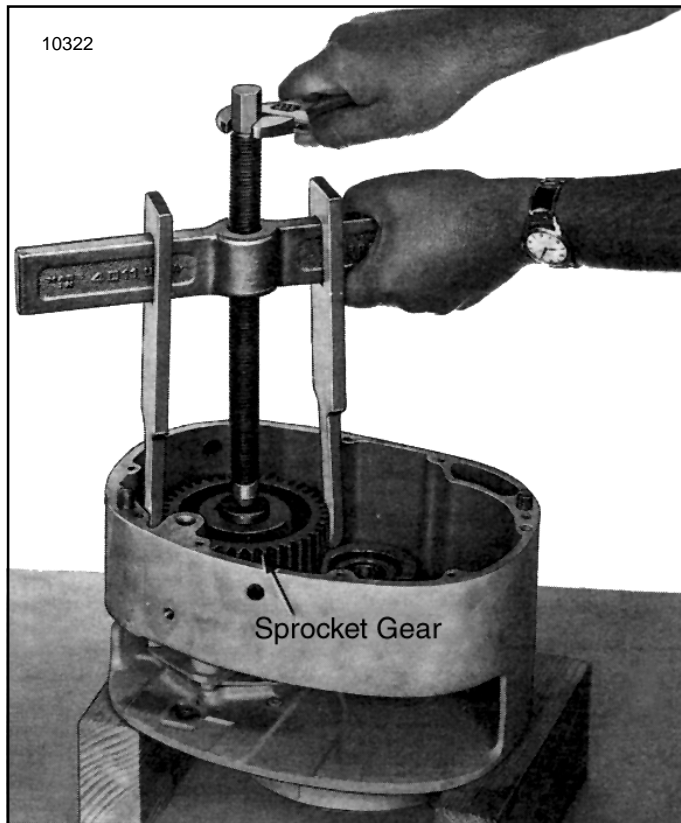

Figure 7-9. Pulling Sprocket Gear from Sprocket Shaft Using Common Puller
- (1) Remove retaining ring from end of sprocket shaft and pull off sprocket gear using a common puller (Figure 7-9). Remove Woodruff key from shaft.